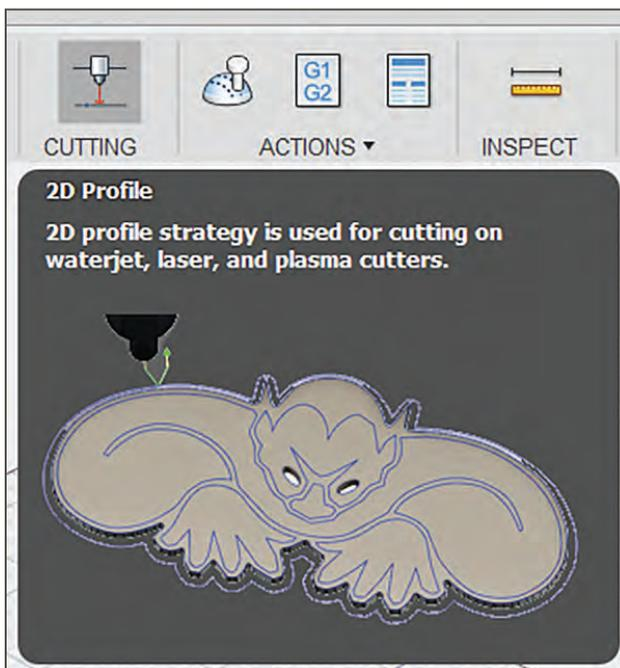

FIGURE 13-12: Cutting is a 2D operation.
- ▶ **Cutting:** Cutting is a 2D operation used for waterjet, laser, and plasma cutters on flat stock (Figure 13-12).